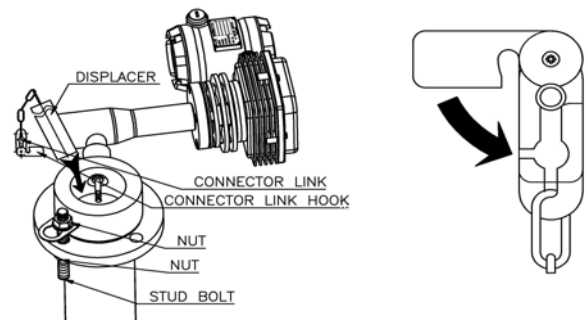

FIG. 10
(Refer to Fig. 10)
- Insert the connector link hook into the groove of the operating rod's hole then rotate the connector link hook to lock (see Fig.10).